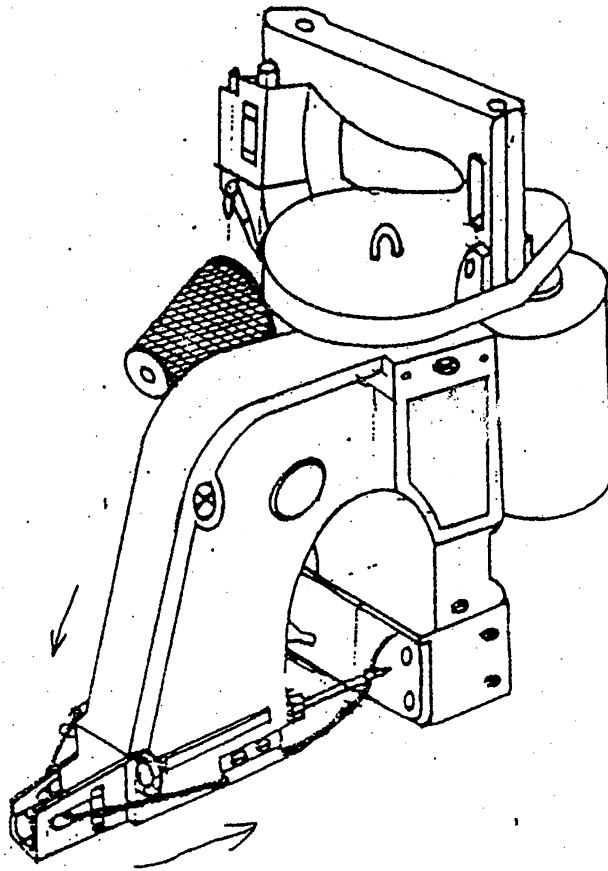
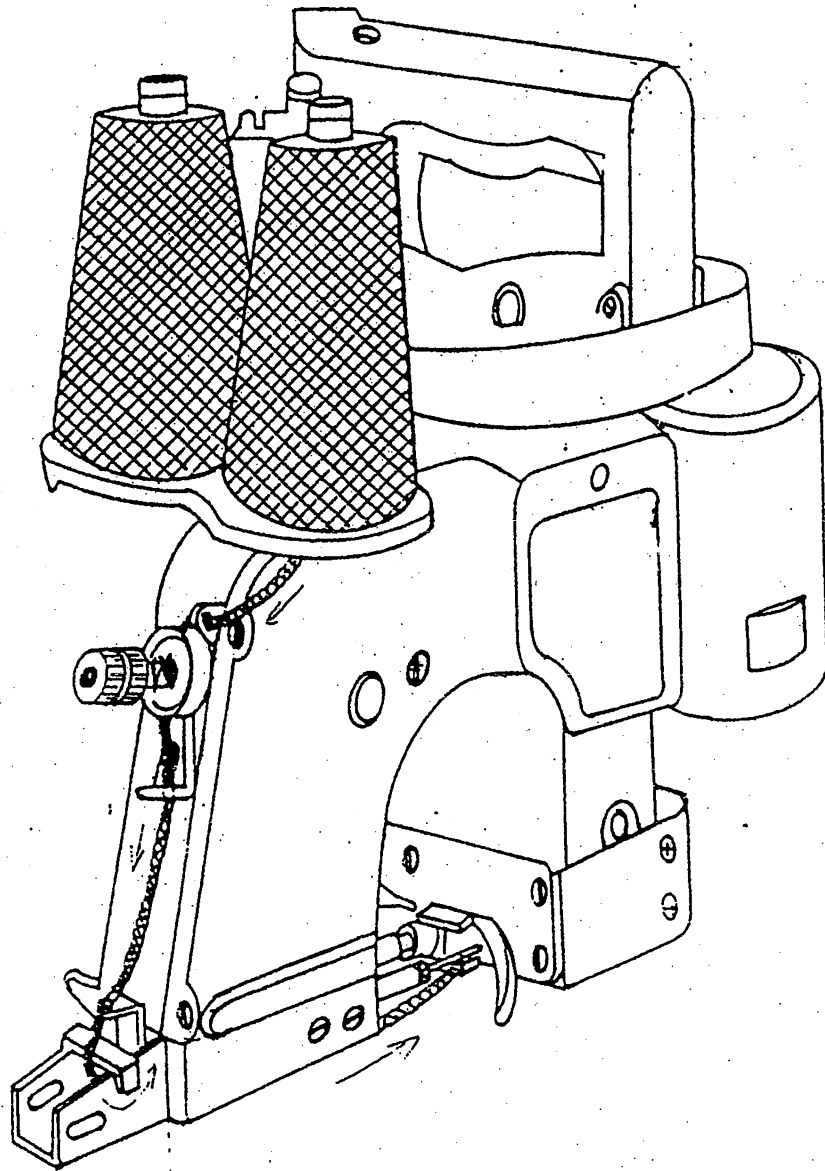

Fig. 02
Fig.04
B) Threading : (See also Fig.02/03 & Fig. 04/05)
- a) Threading procedure for C10NS: Please refer Fig. 02/03
- b) Threading procedure for C20NS : Please refer Fig. 04/05.